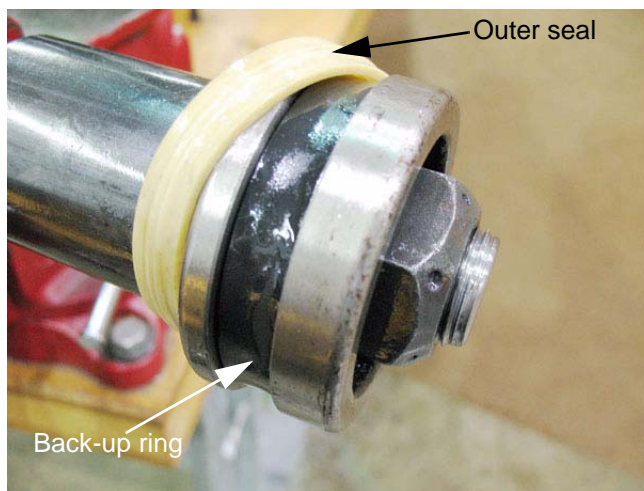

Figure 5.9
2.23. Install a new back-up ring and piston seal. See Figure 5.9.